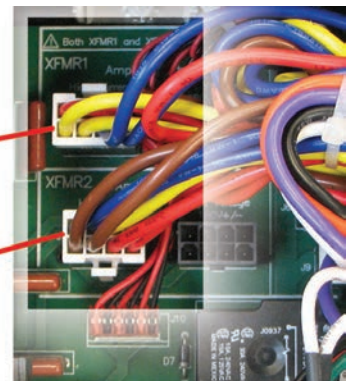

Figure 4.12 – J3 and J7 Plug Locations for High-Current Output
2. For High Current (90V) Output (see **Figure 4.12**).